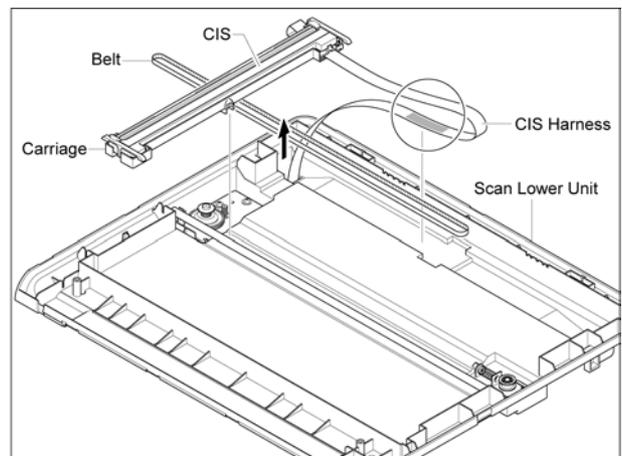

Figure 9
11. Remove the CIS, CIS Harness, Scanner Belt and Carriage, Figure 9.